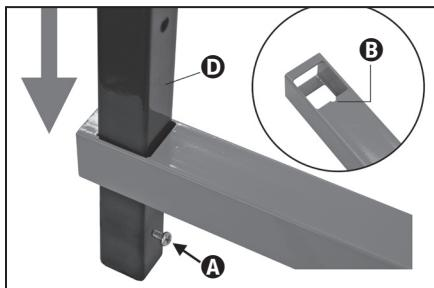

Figure 1
- Locate the bottom of the long vertical bar. It has a small screw hole 1/2 inch (13mm) from the end. Insert a screw **A**. Locate the bottom of an orange horizontal bar **B**. It has a small notch as shown in the inset photo. Slide the orange bar down the length of the vertical bar from the top until it rests in position against the screw. Figure 1.